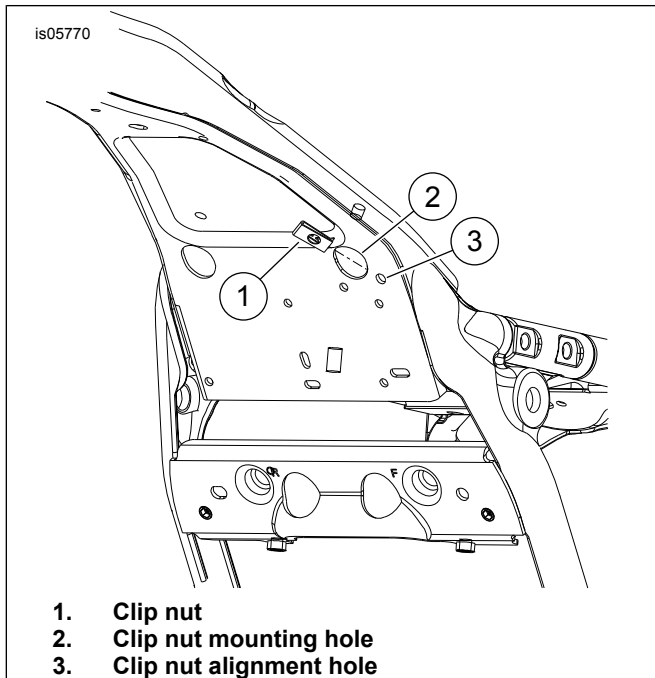

Figure 2. Install Clip Nut
1. See Figure 2. Install clip nut (1) in mounting hole (2). Align the clip nut hole with alignment hole (3). Follow the instructions included with the Mid-Frame Air Deflector Kit to install the four self-clinching special nuts.